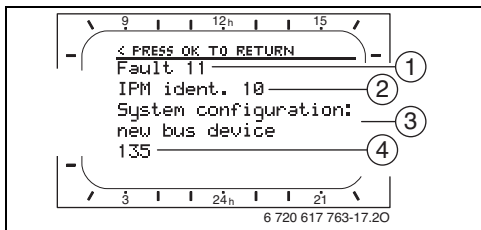

Fig. 25 Fault display
Information displayed (→ items 1, 3 and 4 in Fig. 25)